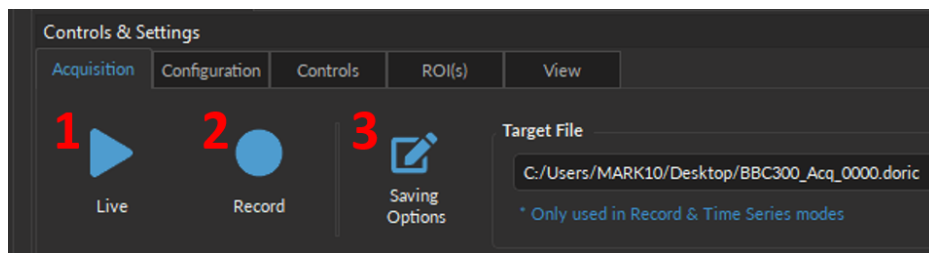
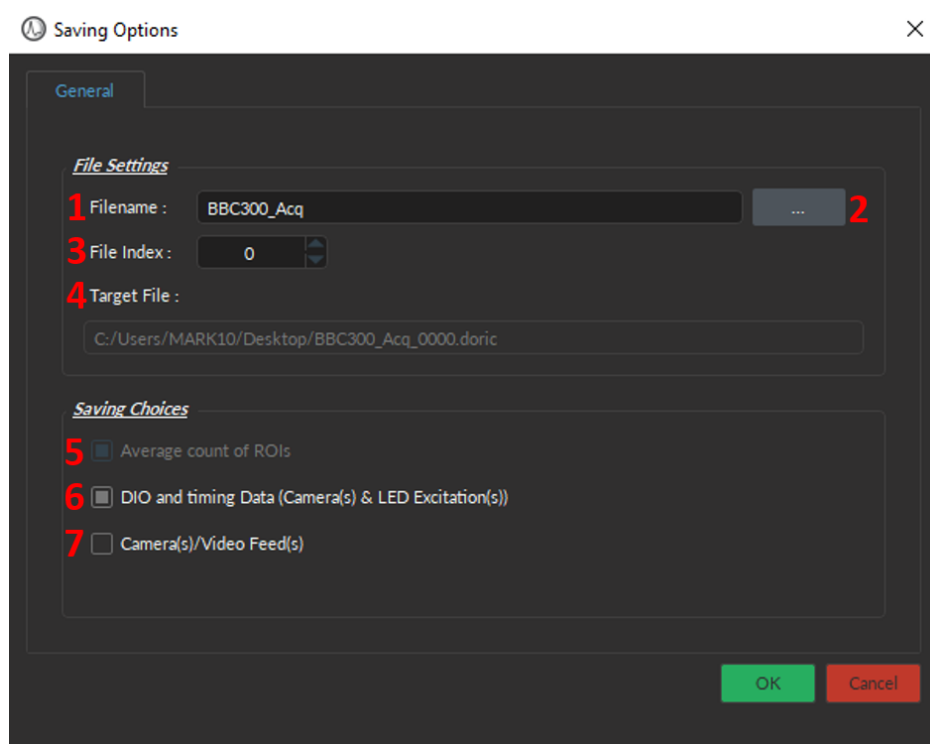

Figure 10.6: Acquisition Tab
Figure 10.7: Saving Options Window
1. The **Live** button (Fig. 10.6, 1) activates all prepared channels. This mode does not save data, keeping only the most recent 700 000 data points in memory. This mode is not recommended for long or critical measurement sequences. **Live** mode is useful to quickly test the recording software and to ensure that the parameters were properly set.
2. The **Record** button (Fig. 10.6, 2) activates all prepared channels while periodically saving recorded data to the computer. This mode is recommended for long measurement sequences.
3. The **Saving Options** (Fig. 10.6, 3) button opens the **Saving Options** window (Fig. 10.7). See section 10.3.1.1 for more details.
4. The **Target File** (Fig. 10.6, 4) displays the path and file name where the data will be stored once the **Record** button is selected. Select the **Saving Options** button to change the path and file name.
The **Saving Options** window is used to define how and where the file is saved. This window is opened by selecting the **Saving Options** button in the Acquisition Tab (Fig. 10.6, 3).
1. The **Filename** text-box lets users specify the name of the data file that will be saved (Fig. 10.7, 1).
2. The **[...]** button opens a File Explorer window where users can select the folder where the data will be saved (Fig. 10.7, 2). Note that the file will be saved as a **.doric** file, an HDF5-based format that supports metadata (signal, video, images, tables, parameters, etc.). Version 6 of *Doric Neuroscience Studio* is no longer compatible with other file formats (.csv, .excel, or .tiff). We provide Matlab, Python, and Octave codes to read **.doric** files HERE (at the bottom of the web page). While not recommended, it is possible to export a **.doric** file into .csv format through the **Doric File Editor** module.
3. The **File Index** (Fig. 10.7, 3) box is used to define the current indexation number used for multiple files saved during the same measurement session. The suffix is incremented automatically when recording multiple files.
4. The **Target File** (Fig. 10.7, 4) displays the absolute path and filename where the data will be saved.
5. The **Average count of ROI(s)** checkbox (Fig. 10.7, 5) saves the mean pixels intensity of each defined region of interest. This setting cannot be disabled.
6. The **DIO and timing Data (Camera(s) & LED Excitation(s))** checkbox (Fig. 10.7, 6), if enabled, will save the digital TTL outputs of the Camera(s) & LED Excitation(s). This value is by default enabled.
7. The **Camera(s) / Video Feed(s)** text-box (Fig. 10.7, 7), if enabled, will save the raw image stacks collected by the CMOS sensor(s). Note that selecting this option will generate large files.
- *Software Command* - The recording will start when the **Record** button is selected in the **Acquisition Tab** (Fig. 10.6, 2). The **Master Start** is, by definition, always **Manual**.
The **Time Series** Window (Fig. 10.10b) can be opened by clicking on the **Record** button (Fig. 10.6, 2) when the **Master Trigger** is in **Time Series** mode in the **Global Settings** window (Fig. 10.9, 2). Every **Time series** sequence is automatically saved to the same *.doric* file defined in **Saving Options** (Section 10.3.1.1).